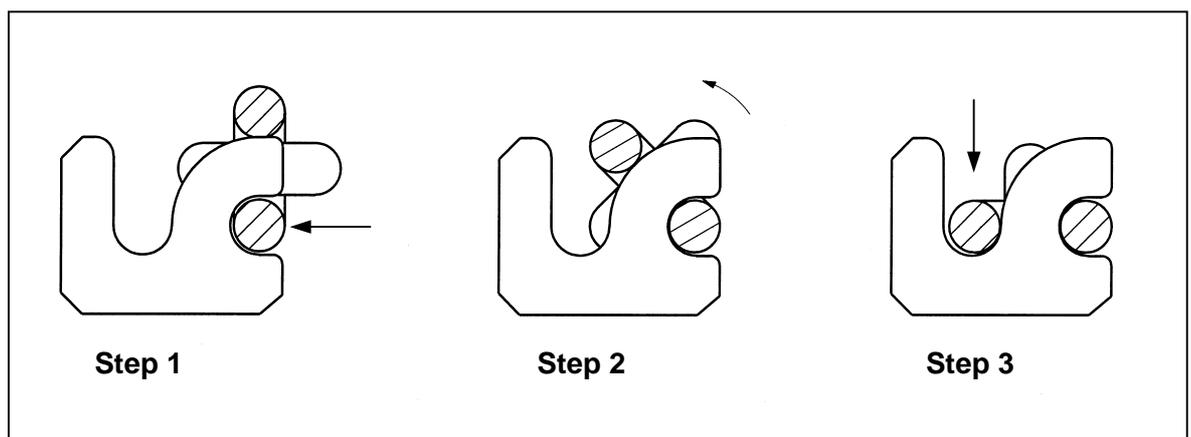

Fig. 2
2. Hook the attachment/scrapper bar into the horizontal chain link (90° relative to the plane of the wheel). Alternatively, the slack chain can be hooked onto the scrapper bar (figs 2 & 3).